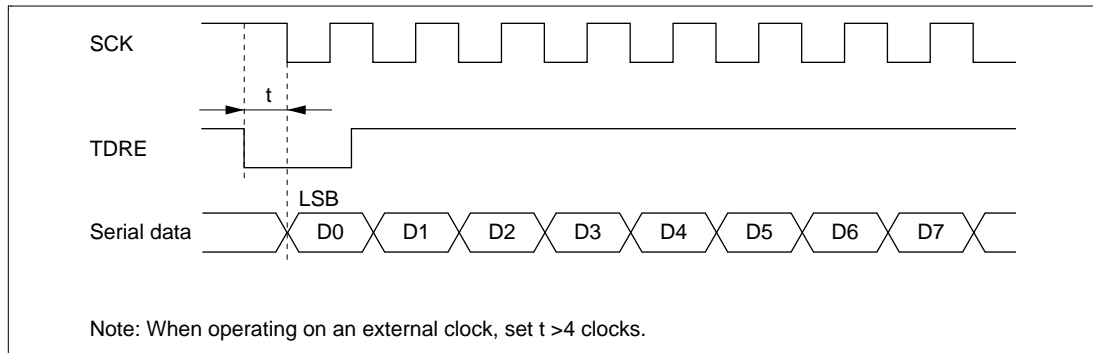

Figure 13-22 Example of Clocked Synchronous Transmission by DTC
- When an external clock source is used as the serial clock, the transmit clock should not be input until at least 5 ϕ clock cycles after TDR is updated by the DMAC or DTC. Misoperation may occur if the transmit clock is input within 4 ϕ clocks after TDR is updated. (Figure 13-22)